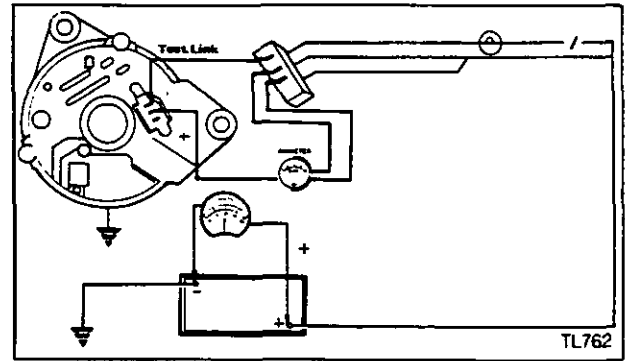

Figure 7
TEST 6. Checking voltage regulator setting. (Figure 7)
3. Connect a voltmeter across the battery terminals. See figure 7.